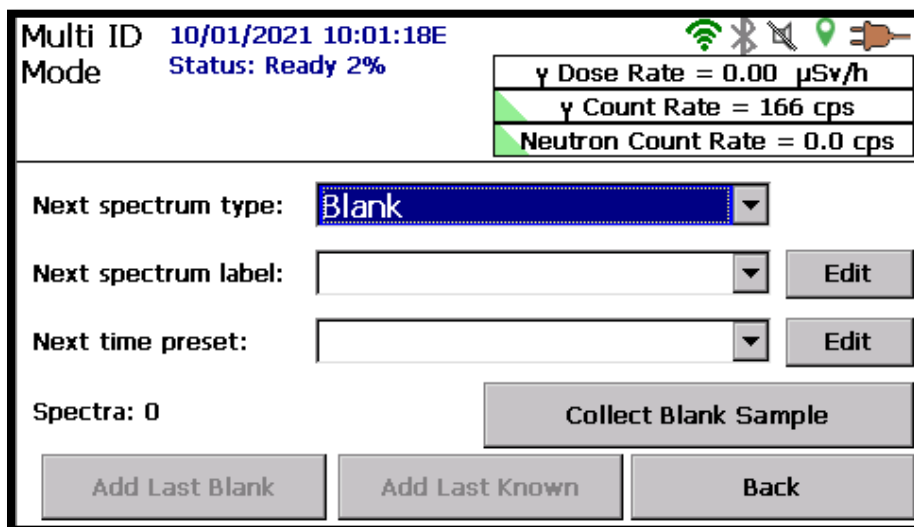

Figure 68. Set Up Parameters for Multiple Spectrum ID Mode
- In this mode, each time ID Mode is entered, the Multi ID Mode page shown in Figure 68 will be displayed so the user can set up and annotate the multiple measurements to be made.
5. When spectrum acquisition is complete, the screen will switch to the Multi ID Mode screen (Figure 68) and wait for information to be entered for the next spectrum. The bottom-left **Spectra** counter will track the number of spectra that has been added to the file so far; and the **Back** button will change to **Finalize**.